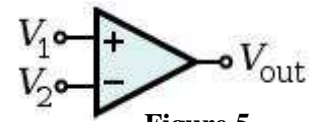

Figure 5
In the **Comparator circuit**, shown in Figure 5, when the non-inverting input ( $V_1$ ) is higher than the inverting input ( $V_2$ ), the high gain of the op-amp causes the output to saturate at the highest positive voltage it can output. When the non-inverting input ( $V_1$ ) is lower than the inverting input ( $V_2$ ), the output saturates at the most negative voltage it can output. The op-amp's output voltage is limited by the supply voltage.
The **Square wave generator circuit**, shown in Figure 5, is used to generate a square wave. It's the reference voltage for the comparator depends on the output voltage. The period of the output signal (T) is given by the following equation: